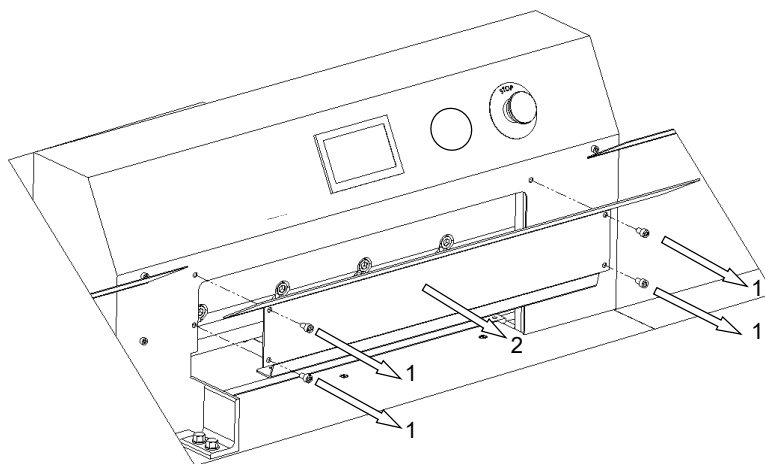

Figure.21
**8.1.1.4** Remove the four screws 1 (fig.21) securing the cover 2 and remove the cover 2.